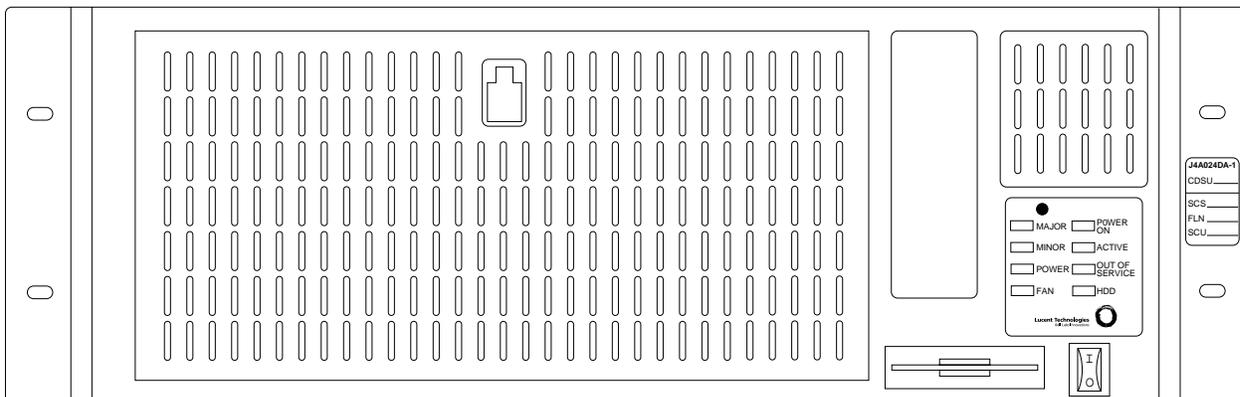

Figure 19. CDSU-II (Front View)
- Custom Data Service Unit (CDSU-II) (Front View) (Figure 19)